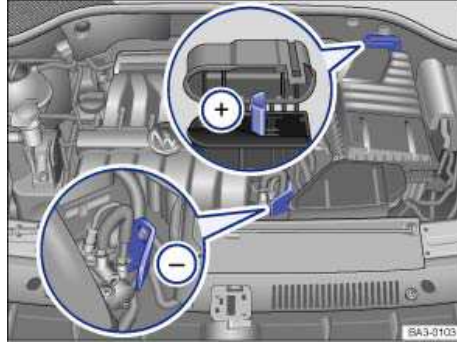

Fig. 227 In the engine compartment (3.6 liter engine): Positive jump-start terminal + and negative jump-start terminal -.
- (1) Switch off the ignition in both vehicles, *Starting and stopping the engine*.
- (2) If necessary, open the battery cover in the engine compartment, *Vehicle battery* or flip open the cap on the positive jump-start terminal⁹, *Jump-start terminals, 3.6 liter engine* ⇒ fig. 227 (+).
- (3) Attach one end of the **red** jumper cable to the **positive terminal (+)** of the dead battery (1)
- (4) Attach the other end of the **red** jumper cable to the **positive terminal (+)** of the good battery (booster battery) (2).
- (5) Attach one end of the **black** jumper cable to the **negative terminal (-)** of the booster battery (2).
- (6) Attach the other end of the **black** jumper cable (3) to a **bare metal part of the vehicle with the dead battery**. This part should be connected directly to the engine block. You may also attach the cable to the engine block itself. Attach the clamp to a point that is as far away as possible from the dead battery: (1) ⇒ ⚠.
- (7) On vehicles with the **3.6 liter engine**, attach the other end of the **black** jumper cable (3) to the engine lifting bracket. See, *Jump-start terminals, 3.6 liter engine*, ⇒ fig. 227 (-).
- (8) Route the jumper cables so that they cannot get caught in any moving parts in the engine compartment of either vehicle.
⁹ For vehicles without a battery in the engine compartment ⇒ page 386, *Jump-start terminals, 3.6 liter engine*, ⇒ fig. 227.